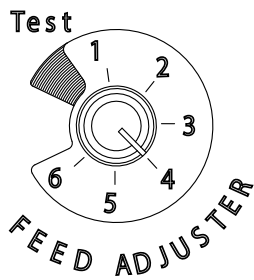
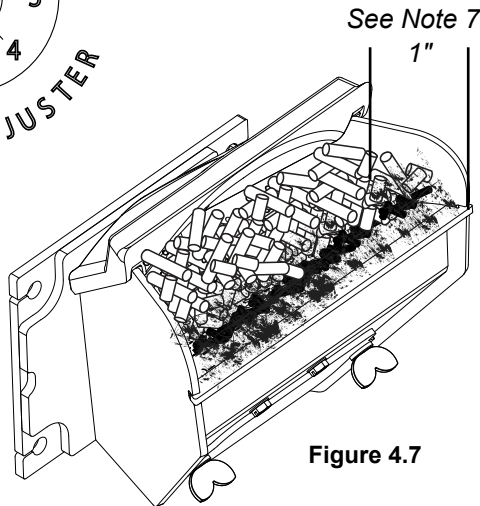

Figure 4.6
Figure 4.7
4. *Adjust Feed Rate. If this is your first fire or you are trying different pellets, set the feed adjuster to #4, Figure 4.6 This is a conservative number and will probably need to be increased. After you know a feed rate setting that works well, use that setting. Remember, if your feed rate is too high you may waste fuel.*
7. *Setting the feed adjuster # for maximum burn: With the unit burning in "AUTO", turn to "Stove Mode" and put the fan on "H". Set the Temperature Dial to #7. Allow the unit to burn for about 30 minutes and check ash on front of burn pot. Figure 4.7. If the ash line is larger than 1", turn the feed adjuster from #4 to #5. Allow another 30 minutes of burn time and check again. If, at #6 setting, a 1" or less ash bed is not obtainable, it is not a problem. The 1" ash bed is only at maximum burn rate and during normal operation, the ash bed will be larger.*
High output is determined by the feed rate setting. This setting, generally on #4, can be increased if higher burn rates are necessary (Figure 4.6). The unit's maximum burn rate should not create less than 1" of ash on the burn pot front edge (Figure 4.7). Overfeeding is not a safety concern, but fuel may be wasted if unburned pellets fall into the ash pan.
This allows for automatic ignition upon start-up only. The unit can then be set at any desired setting. The heat output and fuel consumption will remain constant regardless of room temperature. The unit's maximum feed rate should not create less than 1" of ash on the burn pot front edge. Figure 4.7.